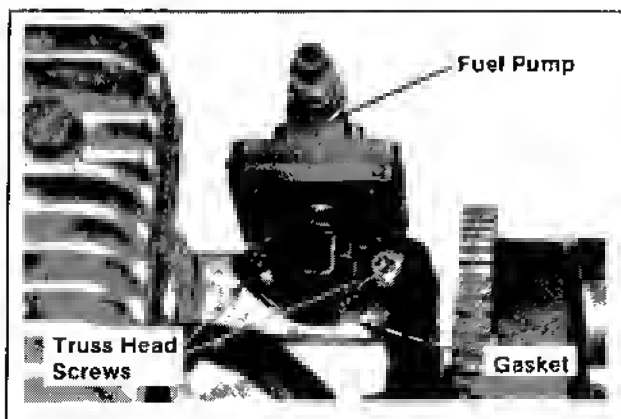

Figure 9-14. Removing Fuel Pump.
1. Remove the truss head screws, fuel pump, and gasket. Refer to Figure 9-14.